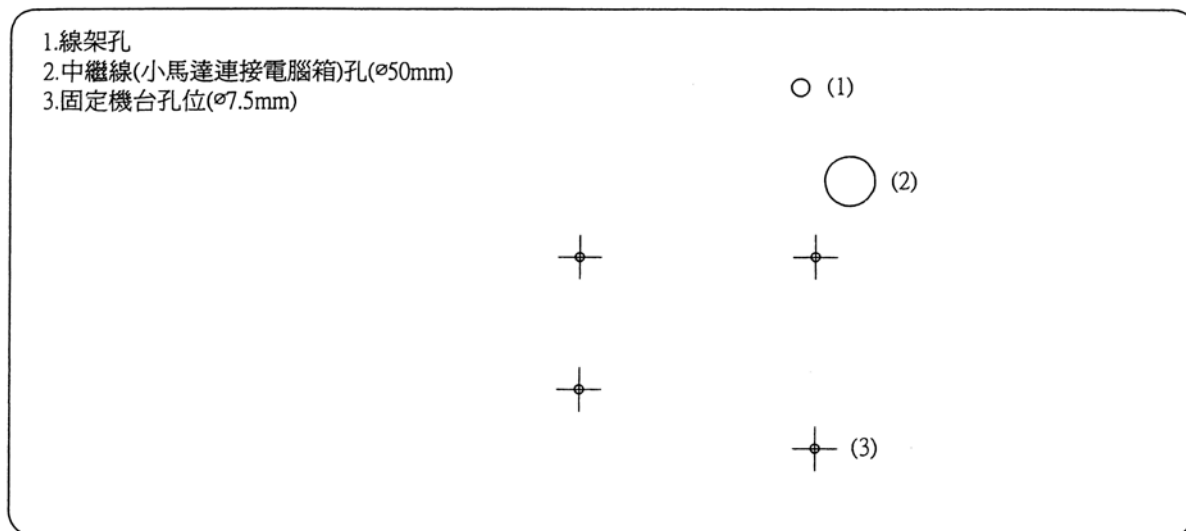

Fig.2
4. Please refer to the Installation Schematic Drawing (Fig.2) for installing the "Directly Driving Type Mini-Servo Motor" machine head, foot stand, control box and accessories.